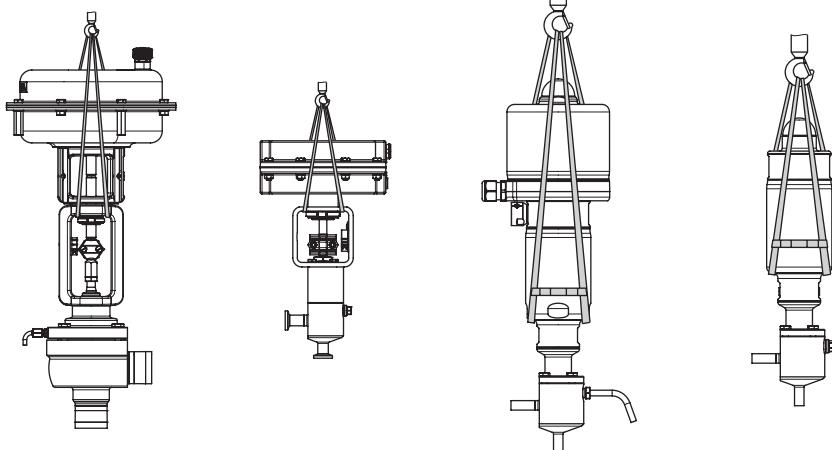

Fig. 4-1: Examples for lifting points on the control valve
- Use a hook with safety latch (see Fig. 4-1) to secure the slings from slip-